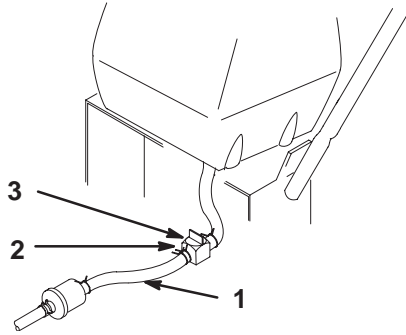

Figure 36
2. Close fuel shut-off valve (Fig. 36).
3. Squeeze the ends of the hose clamp together and slide it away from valve (Fig. 36).
4. Pull the fuel line off the valve (Fig. 36). Open fuel shut-off valve and allow gasoline to drain into a gas can or drain pan.